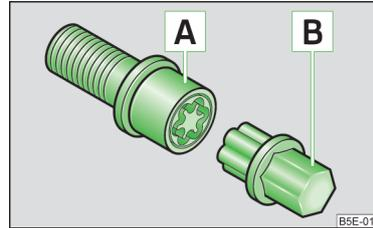

Fig. 182
The anti-theft wheel bolts protect the wheels from theft. These can only be loosened or tightened with the use of adapter **B** » Fig. 182.
- › Insert adapter **B** » Fig. 182 with the toothed side all the way into the inner teeth in the head of the anti-theft wheel bolts **A**.